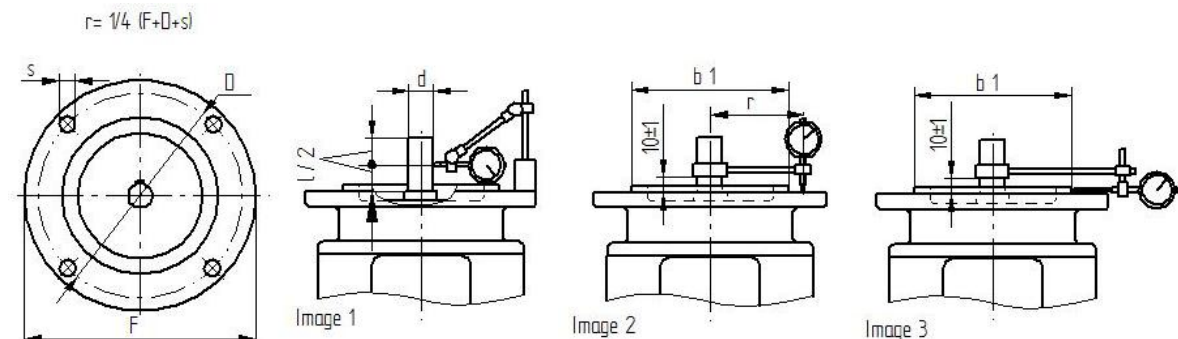

Figure 12: Avoidance of coupling damage
To avoid bearing / coupling damage, before assembling check the motor shaft for smooth rotation (see Figure 12 / Image 1) and the motor flange for coaxial alignment and axial runout.
- Position the motor shaft pointing vertically upwards, in order to exclude an error from the axial play of the bearing and the force of gravity. (see Figure 12 / Image 2 - 3).